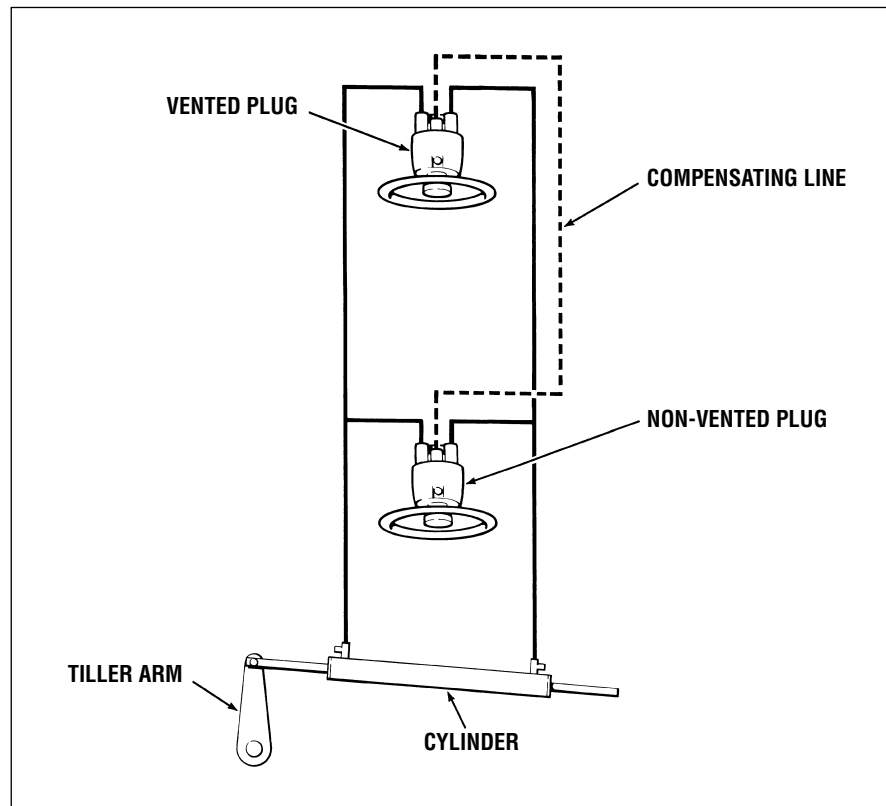

Figure 23. Dual Station.
1. Refer to figure 23 on page 20 for hose/tube to fitting connection.